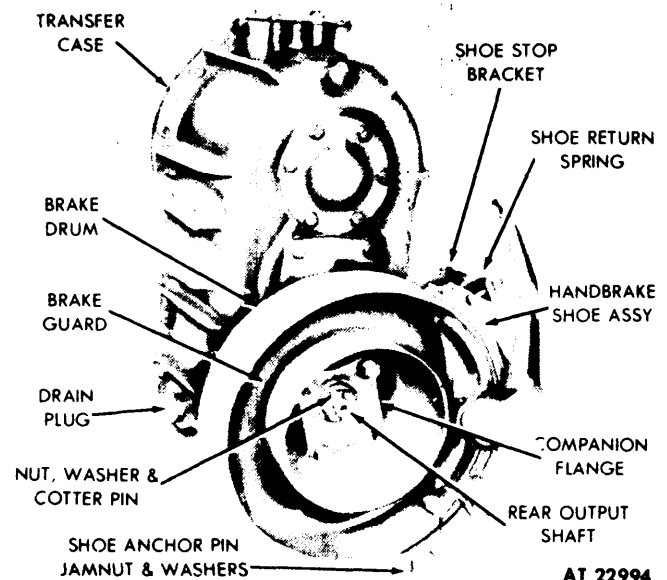
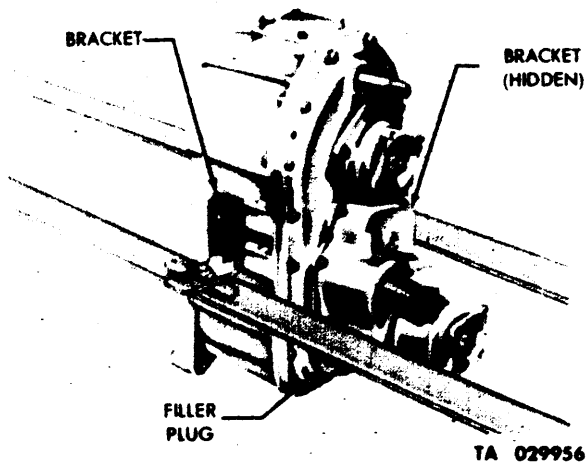
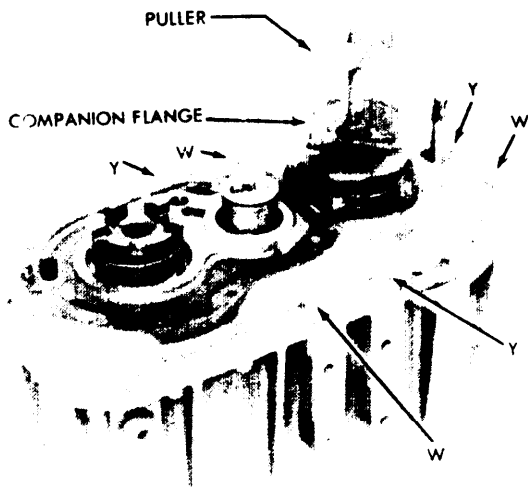

Figure 4-3. Removal of Handbrake Assembly.
Figure 4-4. Transfer Mounted on Stand.
Figure 4-5. Companion Flange Removal.
a. *Handbrake Drum and Shoe Assembly.* Remove the cotter pin (fig. 4-3) from the rear output shaft, front output shaft, and front input shaft. Engage input shaft gears in HI or LOW position. Attach shop air hose to transfer air cylinder. Apply air and engage front output shaft with rear output shaft. Apply the hand brake by hand, and remove the companion flange nuts and washers from the three shafts. Shut off shop air hose and remove the hose from the air cylinder. Disconnect and remove the shoe return spring. Remove the jamnut from the shoe anchor pin. Unscrew the anchor pin from the rear output shaft rear bearing retainer, do not lose washers. Slide the hand brake shoe assembly from the brakedrum. Pull the companion flange, brakedrum, and brake guard from the rear output shaft. (See fig. 4-5.) Remove the two capscrews and lockwashers securing the shoe stop bracket to the transfer case and remove bracket. (See fig. 4-3.)
b. *Positioning of Transfer on Overhaul Stand.* Install transfer on overhaul stand using brackets (items 1 and 2, table 2-1). (See fig. 4-4.)
c. *Draining.* Remove transfer case magnetic drain plug (fig. 4-3) and front output shaft cover filler plug (fig. 4-4). inspect magnetic drain plug for chips.
(1) Using a puller (item 4, table 2-1), remove input shaft companion flange. (See fig. 4-5.)
Take care not to damage or lose taper pins during removal; they are nonsupply items which must be fabricated if lost or damaged. Case and cover are a matched set, mark both parts to retain identity for assembly. Install taper pins and new gasket. Aline case cover with taper pins, and tighten nut and capscrews evenly and alternately. Tighten screws (indicated by Y and W, fig. 4-5) to 60-77 lb-ft torque. Tighten remaining 12 screws to 67-87 lb-ft torque.